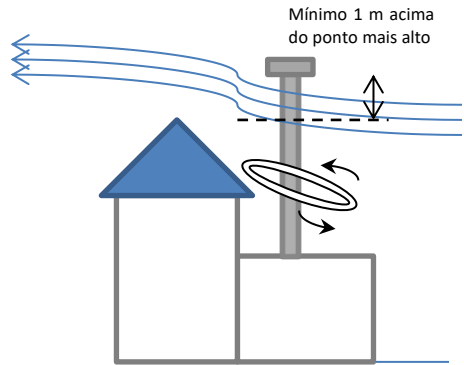

Figure 31 – Correct chimney height
* Keep any combustible materials away from this appliance. For safety reasons, you should maintain a minimum clearance distance around the unit of 20 cm from the back, 30 cm from the sides and 120 cm from the front (Fig.31);